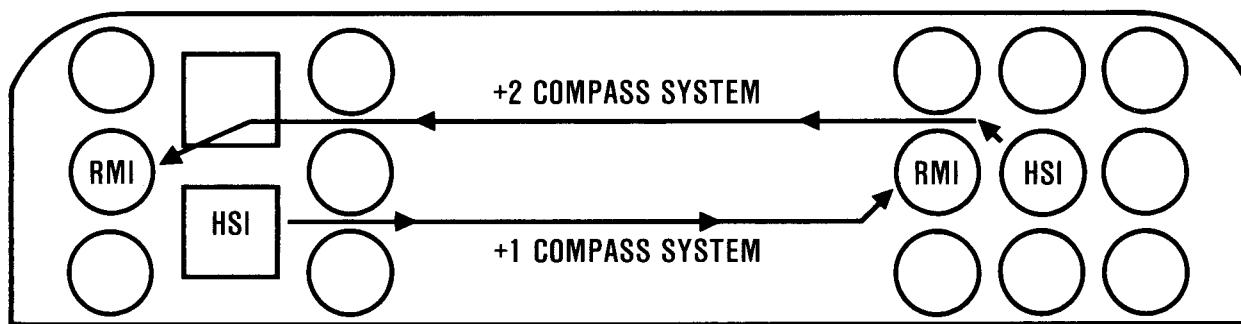

Figure 16-94 Compass System Connections
- Horizontal situation indicator (HSI)—The gyro heading information (which should be the same as magnetic heading) is sent to a compass card on the HSI to display the magnetic heading to the pilot (Figure 16-94). This heading information is then sent from the HSI to the compass card on the opposite Radio Magnetic Indicator (RMI). In this way, gyro-stabilized, magnetic heading information is displayed in front of each pilot from two independent sources: the pilot's and the copilot's compass systems.